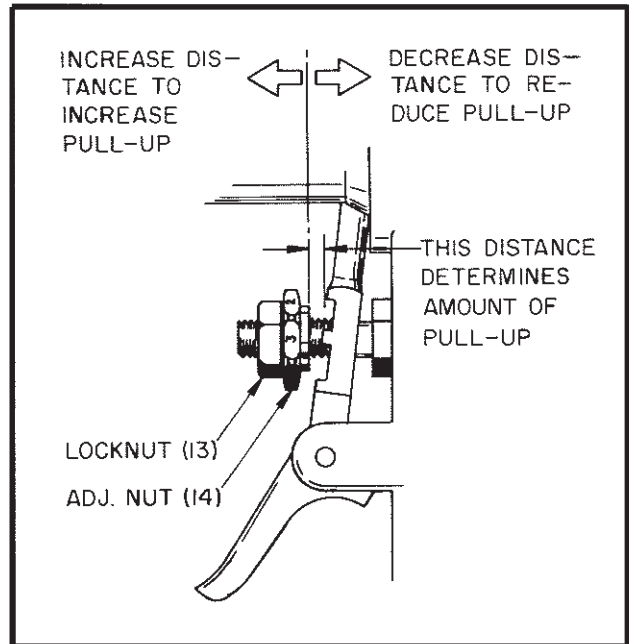

Figure 3. Pull-Up Adjustment on Header
3. Loosen locknut (13) and turn adjusting nut (14) in INCREASE PULL-UP direction (see figure 3) until